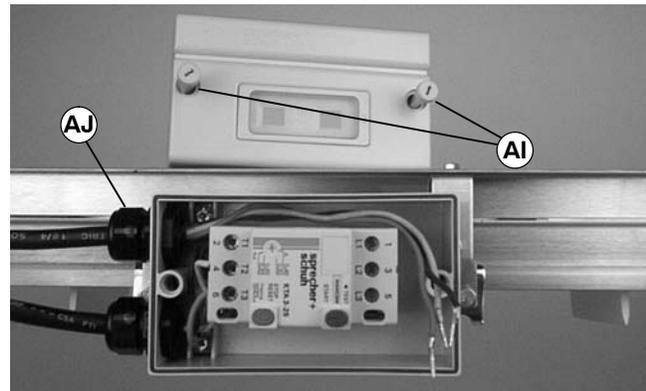

Figure 18
1. Loosen cover screws (AI of Figure 18). Remove cover.
- Install cover and tighten screws (AI of Figure 18).
- Replace starter cover and tighten screws (AI of Figure 18).